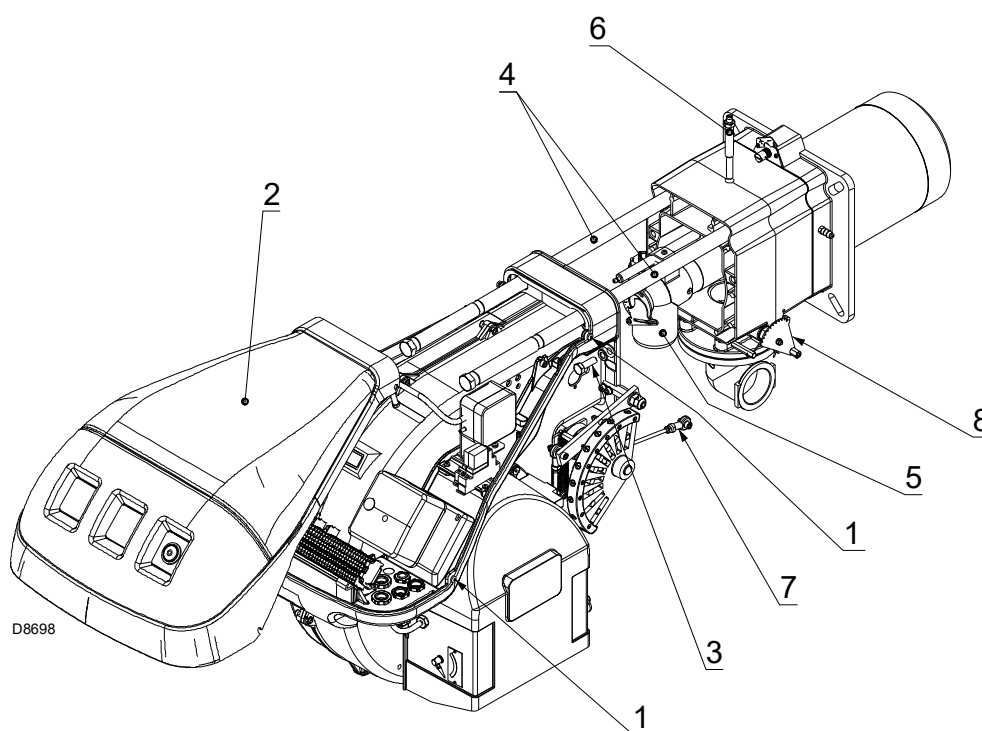

Fig. 36
- Loosen the screws 1) and remove the hood 2)(Fig. 36).
- Replace the screws 3)(Fig. 36) and carefully pull the probe and electrode cables out until they are slightly taut.